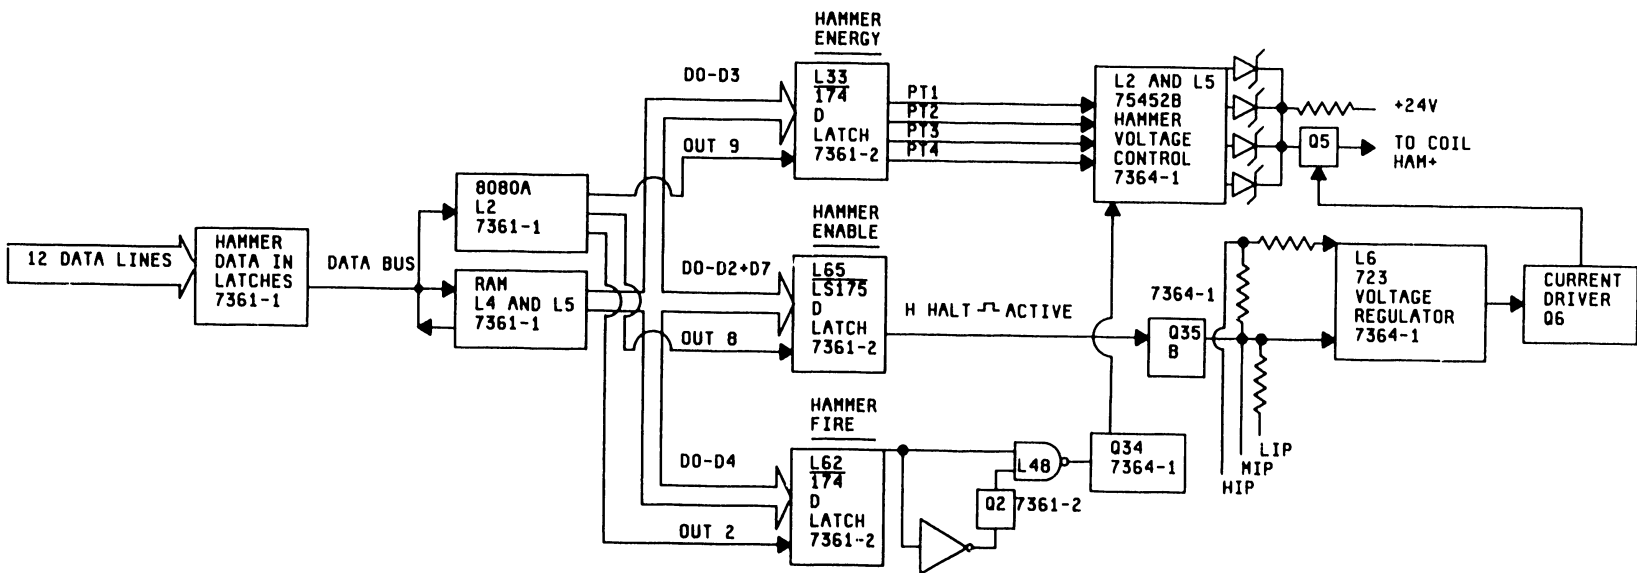

FIGURE 4-20 HAMMER CIRCUIT BLOCK DIAGRAM
4.2.8 HAMMER FORCE CIRCUIT (SEE FIGURE 4-20 AND SCHEMATICS 7361A AND 7364A)